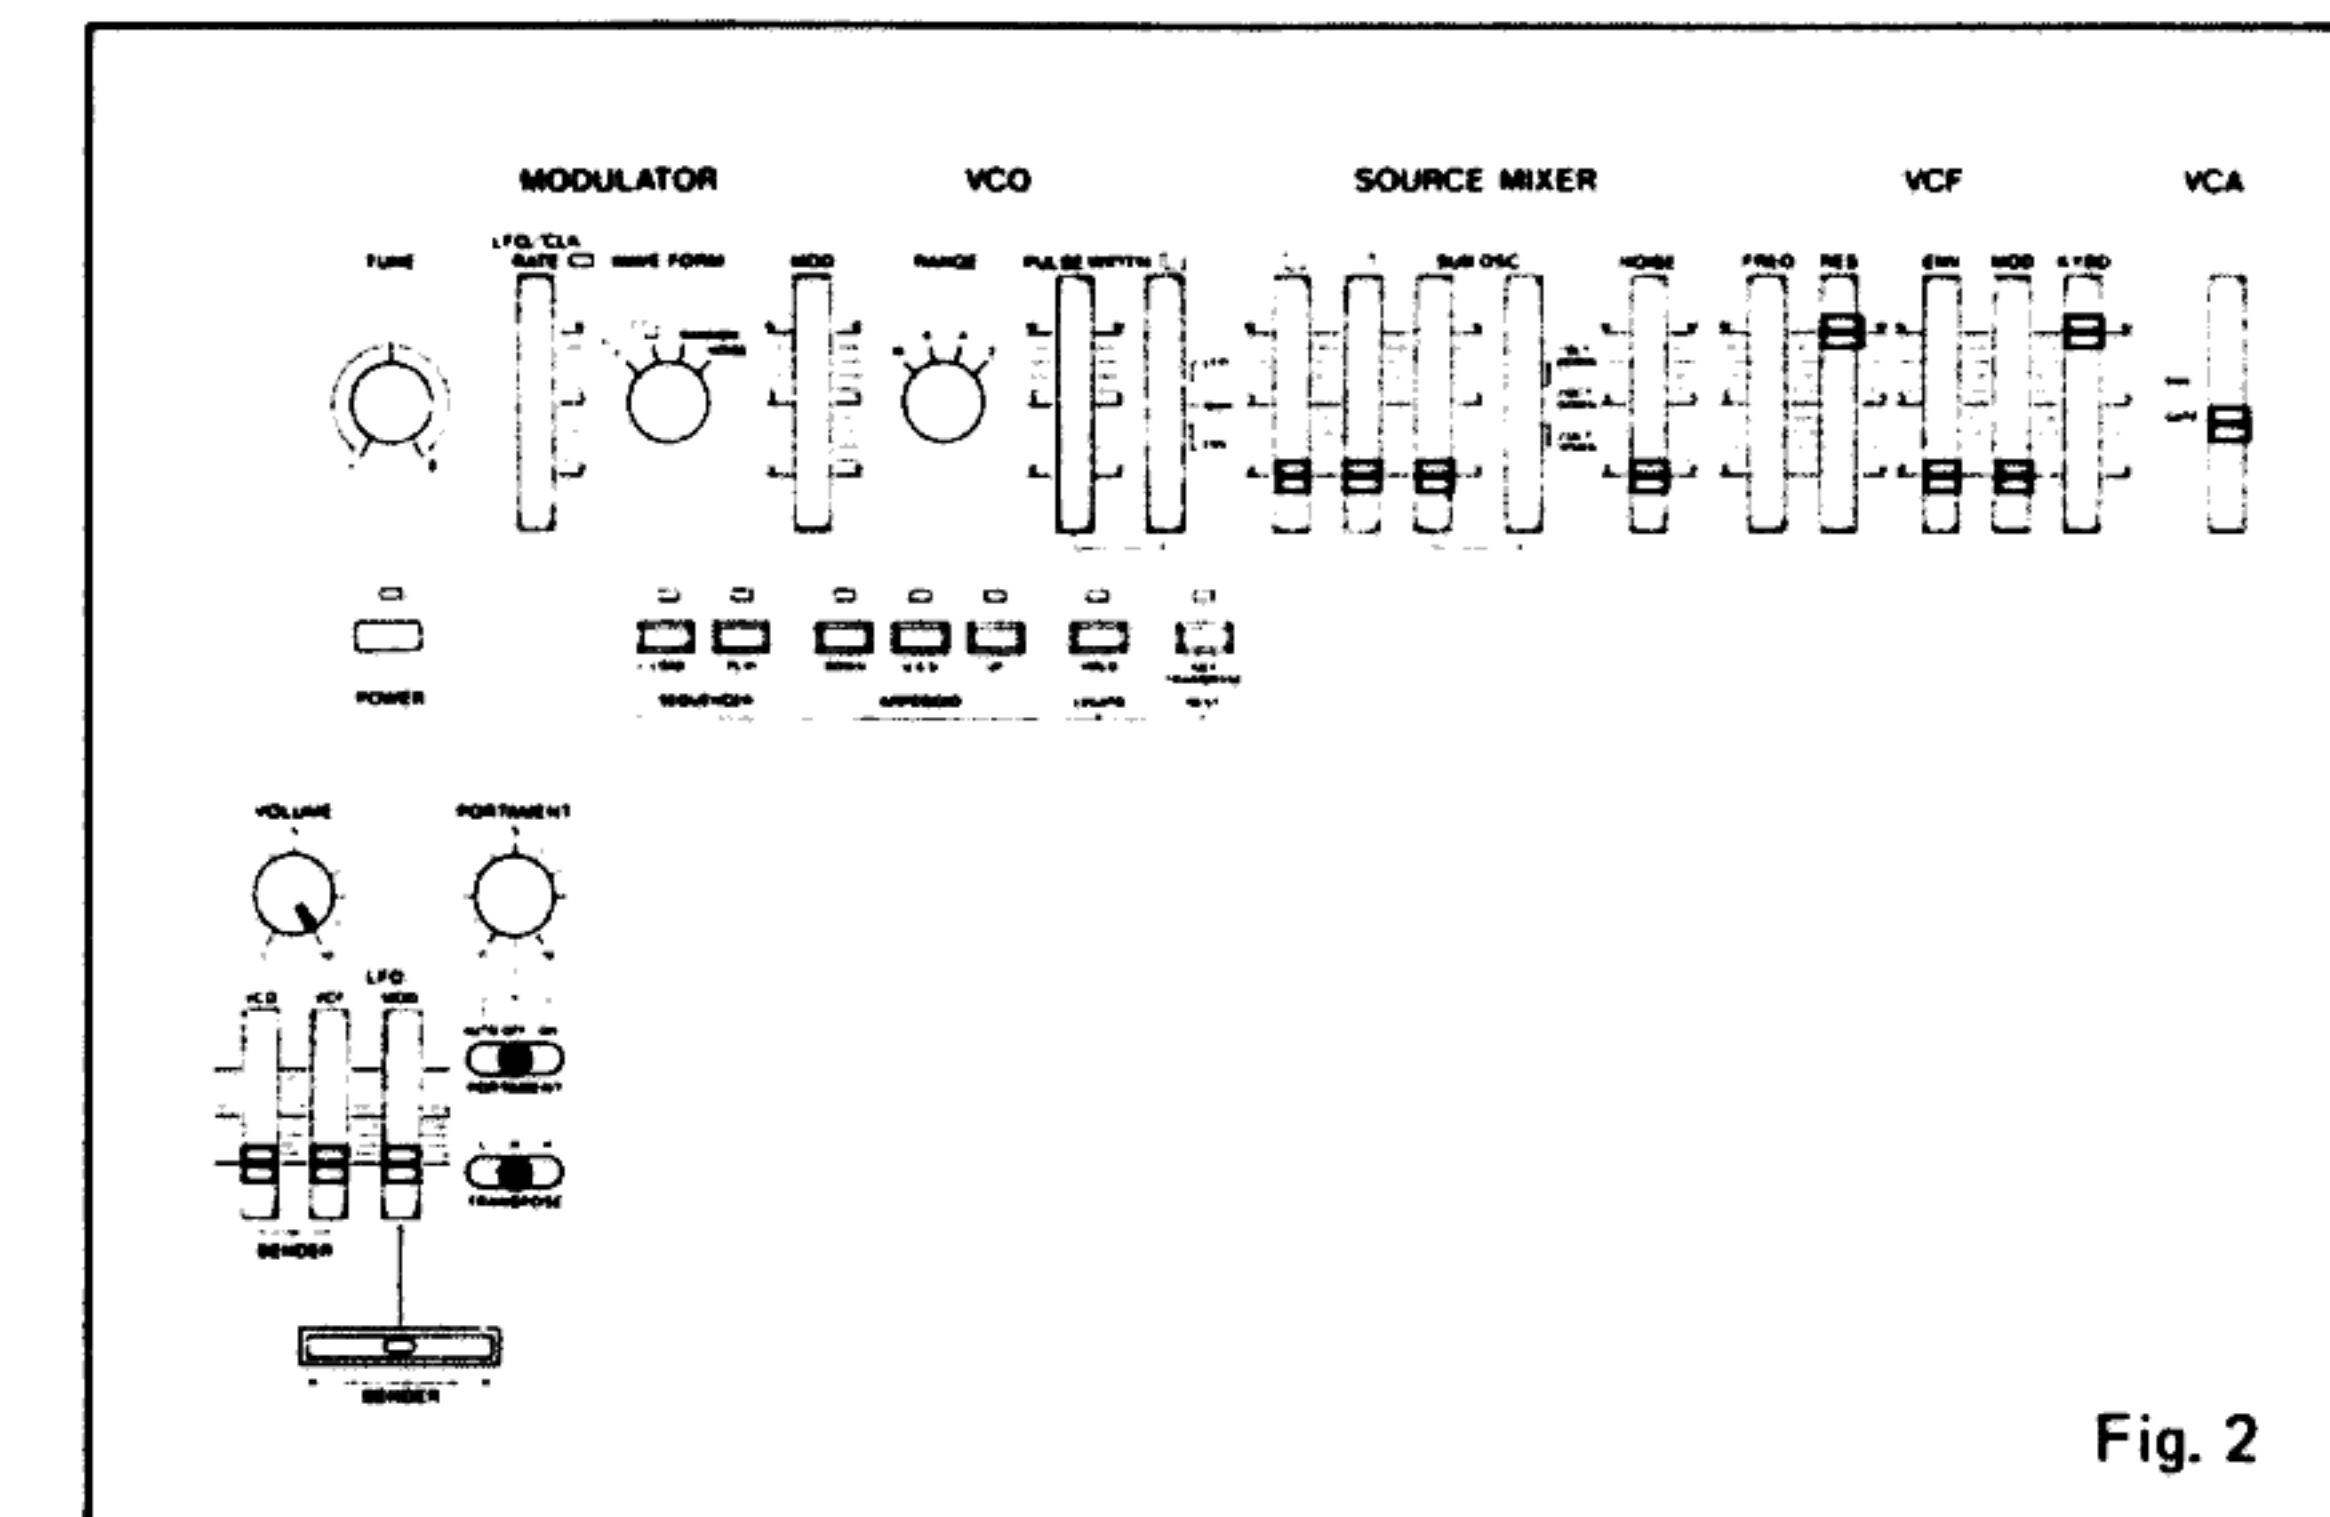

Fig. 2
- Set the panel controls as shown in Fig. 2.